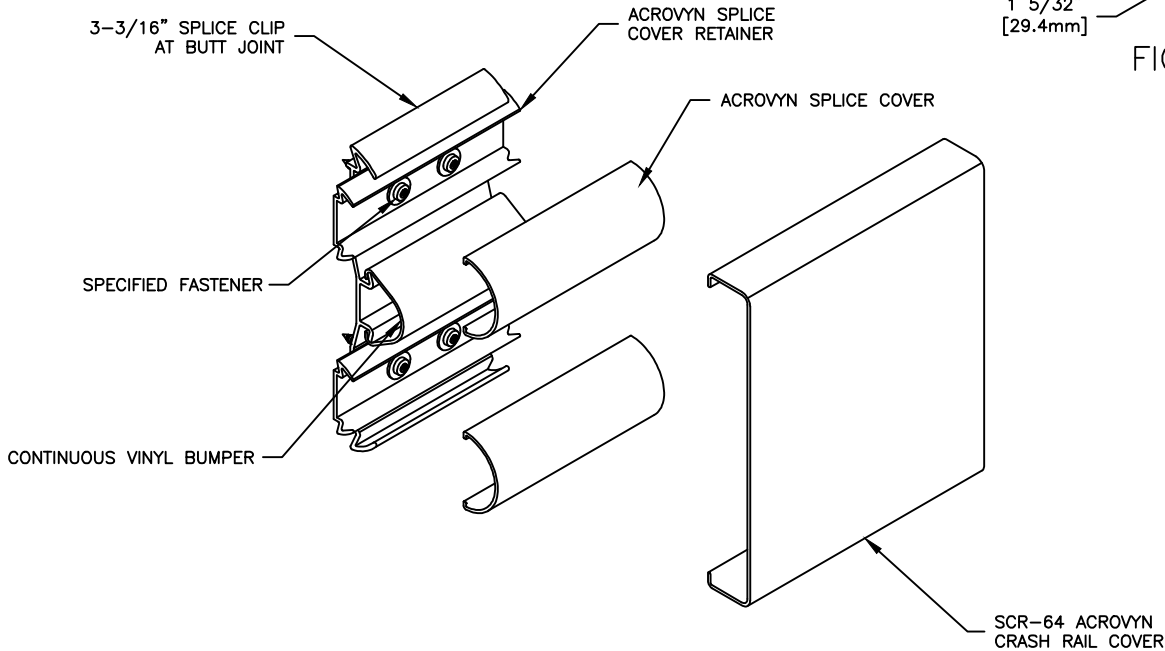

FIGURE 3.
6. ATTACH THE ACROVYN SPLICE COVERS TO THE APPROPRIATE RETAINERS BY ALIGNING THEM WITH THE TOP OF THE RETAINERS AND SNAPPING THEM ONTO THE BOTTOM SECTION OF THE RETAINER. (SEE FIGURE 3)